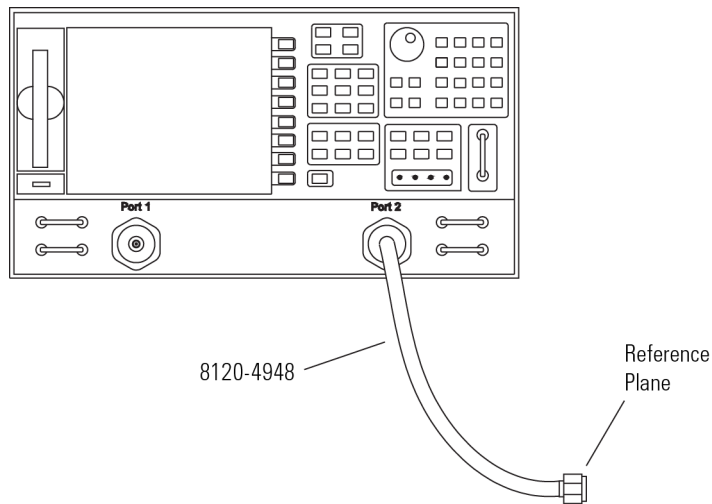

Figure 207 SMA Cable Connected to Port 2
- 13 Connect the other high quality SMA cable to the VNA's **PORT 2** as shown in **Figure 207**.